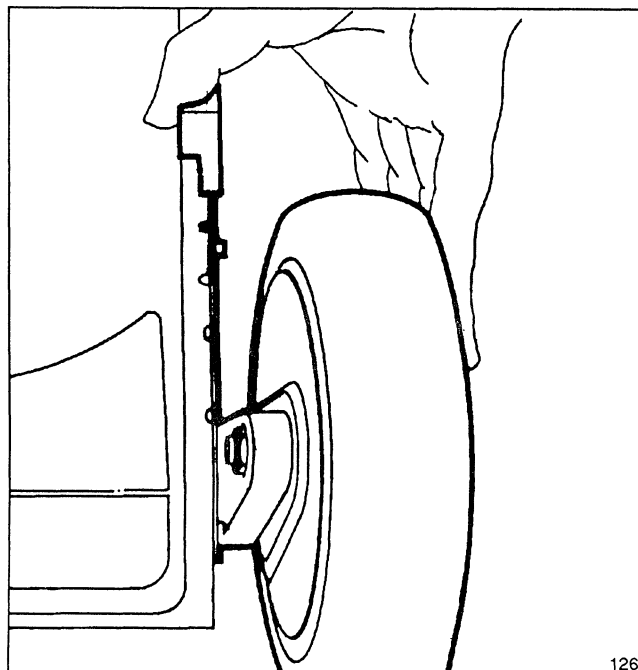

Figure 8
2. Squeeze adjusting lever toward wheel (Fig. 8) and move it to the desired setting. Ensure pin on adjusting lever engages notch in housing. Adjust all wheels to the same setting.